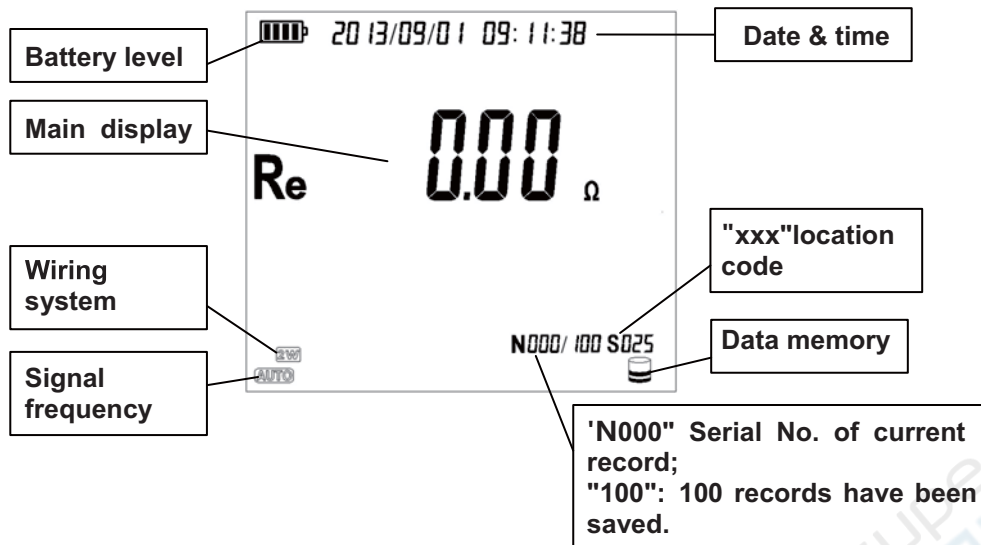

**Figure 3. Earthing 2 Wires for Resistance Measurement**
As shown in Figure 3, the water pipe is used as auxiliary earth rod. In fact, any metal dug into earth and according with above requirements can be used as auxiliary earth rod.
2. Connect 4 crocodile clamps according to Figure 3.